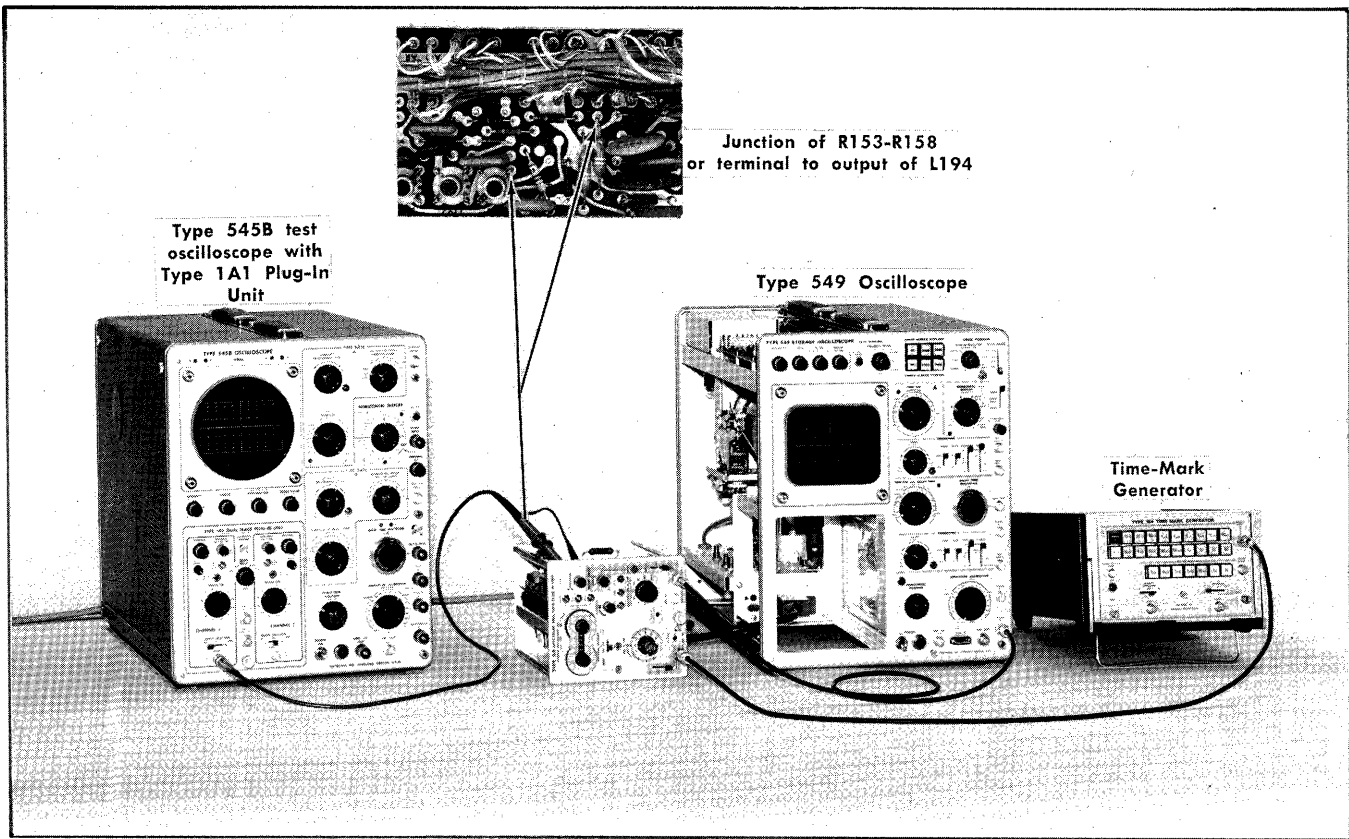

Fig. 6-3. Equipment setup for preliminary sweep oscillator and center frequency adjustments.
- a. Equipment setup is shown in Fig. 6-3.